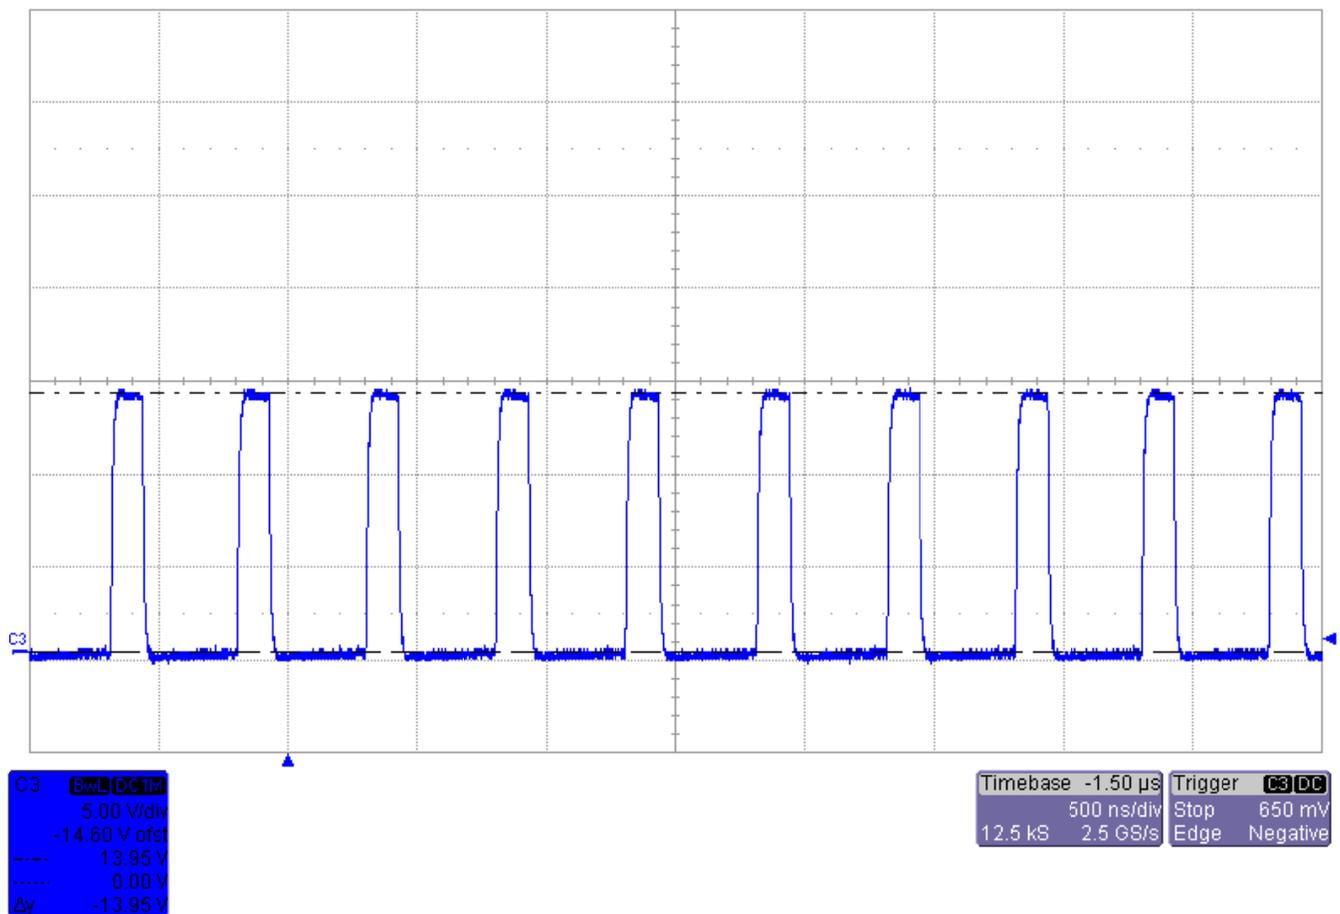
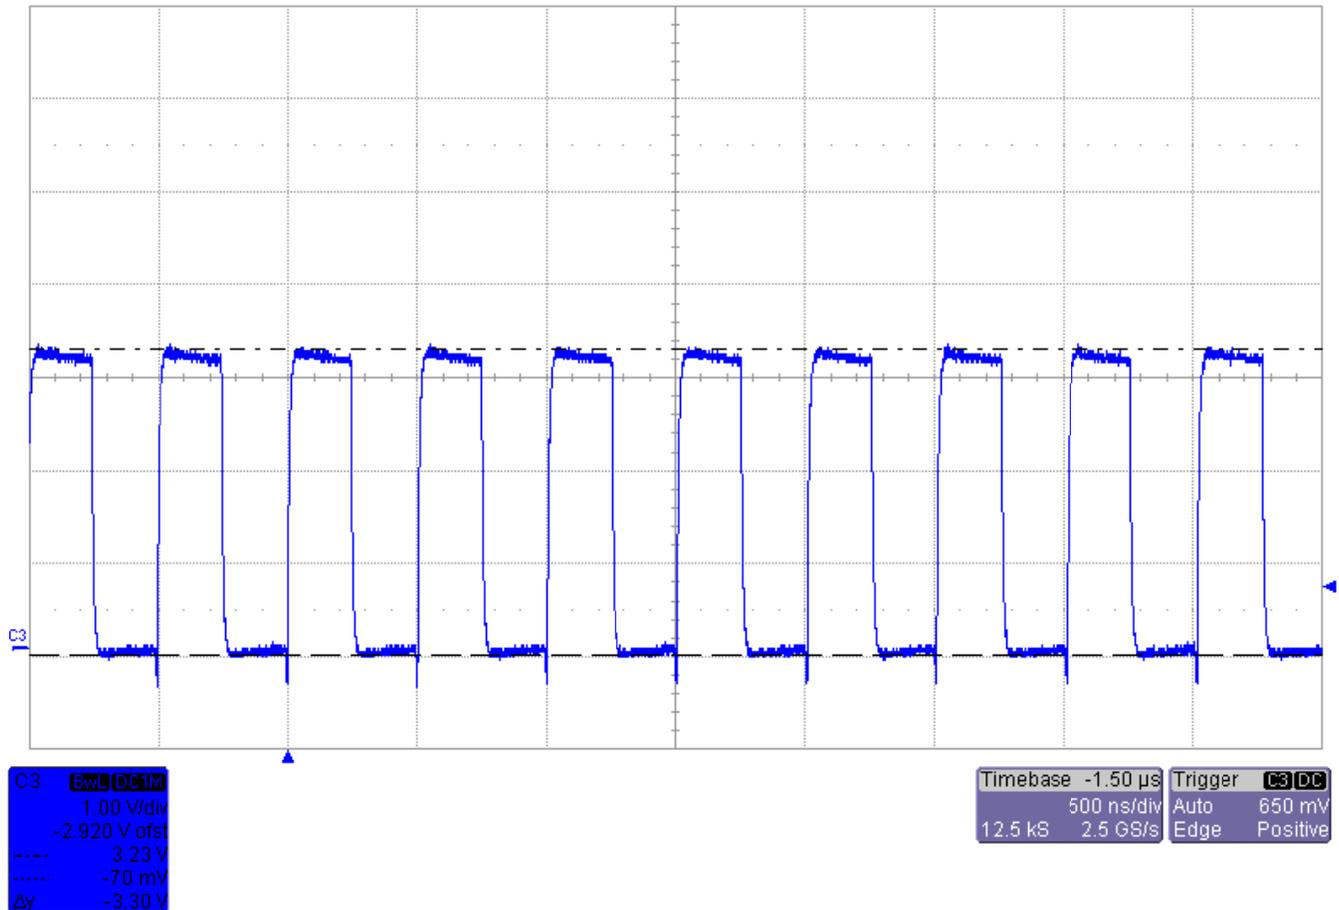

Figure 5: Switching Waveform of 3V3_BUCK0 at 2.2 A
Figure 8: Switching Waveform of 1V5_BUCK at 1.2 A
Figure 5 through Figure 8 depicts the waveforms of the switching nodes of each power rail:
- Figure 5: Switching Waveform of 3V3_BUCK0 at 2.2 A
- Figure 8: Switching Waveform of 1V5_BUCK at 1.2 A